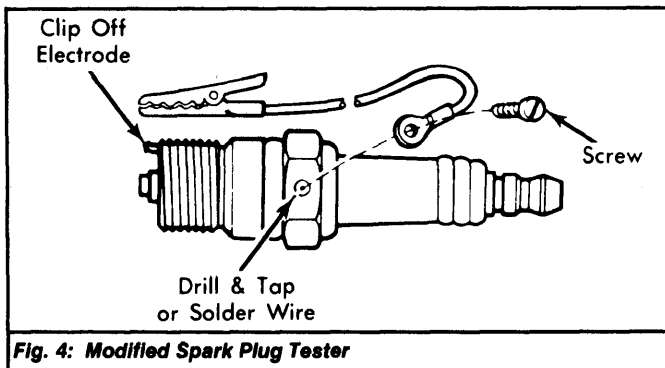

Fig. 4: Modified Spark Plug Tester
- 1) Connect oscilloscope with clamp-on pick-ups to coil high voltage wire. Refer to manufacturer's specifications. If scope is not available, remove coil wire from distributor and insert a modified spark plug into coil wire. See Fig. 4.